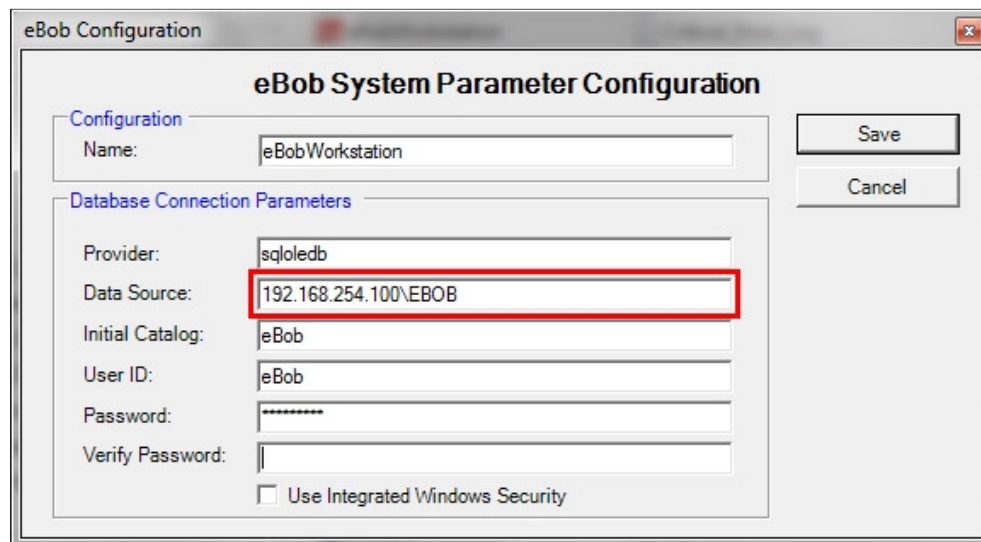

Figure 48
2. Open up eBob Security Administrator on a PC that is NOT hosting the database and note the contents of the Data Source field. See Figure 48. This may be needed to re-enter into eBob after the upgrade.